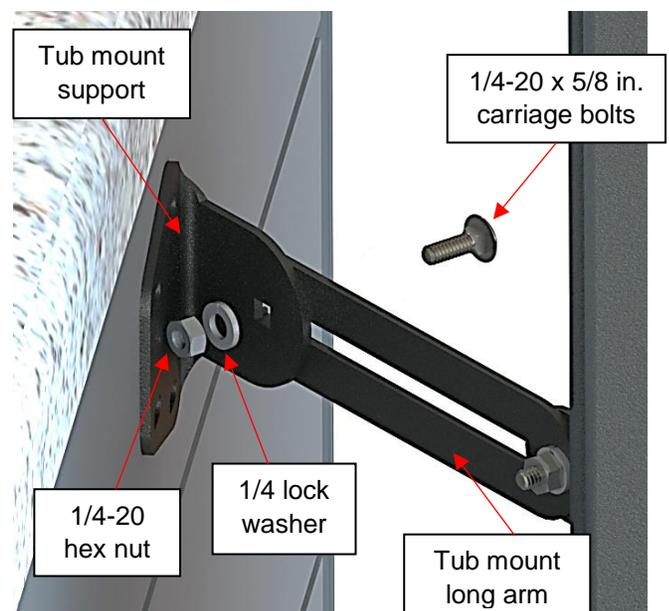

Figure 90
- 4) Install the tub mount supports on the arms. If it is possible, fasten the tub mount supports to the absolute extremities of the arms. Use 1/4-20 x 5/8 in. carriage bolts, 1/4 lock washers and 1/4-20 hex nuts. (Figure 90)